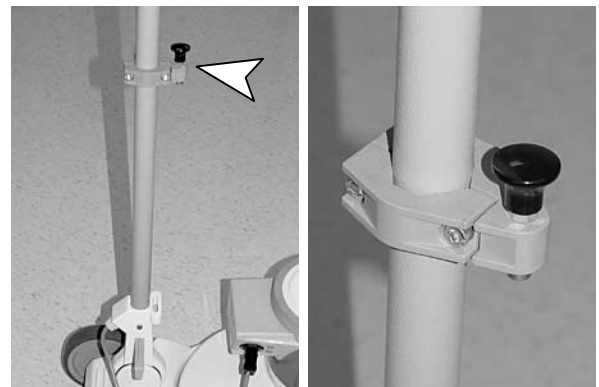

FIG. 2
1. Attach the upper solution tank support bracket to the handle as shown, do not tighten screws at this time, 5 mm allen wrench required (Figure 2).